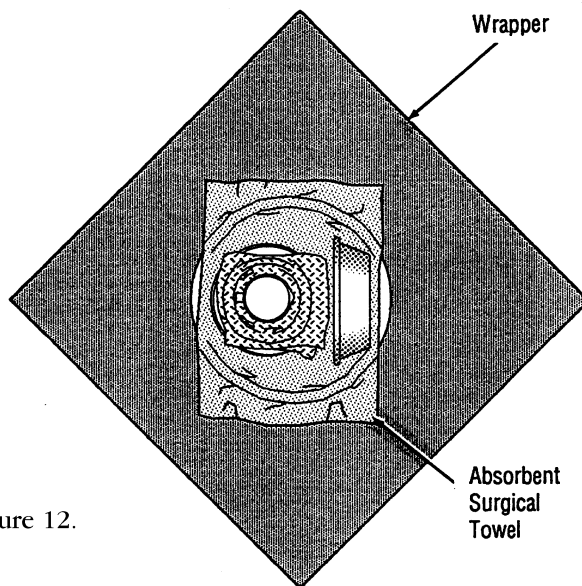

Figure 12.
- a. Before applying the wrapper consider the “curled” rim usually found on large solution basins; water can pool there also when it’s tilted for sterilization. Make sure the rim is positioned on the wrapper so that some of the absorbent towel used to wick the basins will wrap around the edge that the wrapped basin will stand on in the sterilizer. The towel will absorb that condensate and aid in drying (Figures 12 and 14).